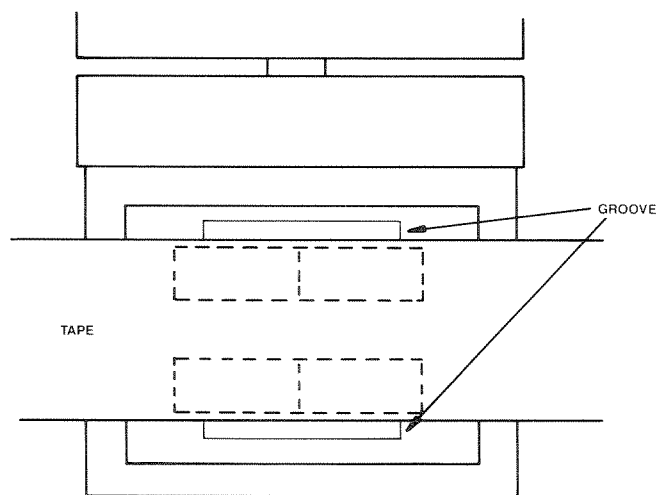
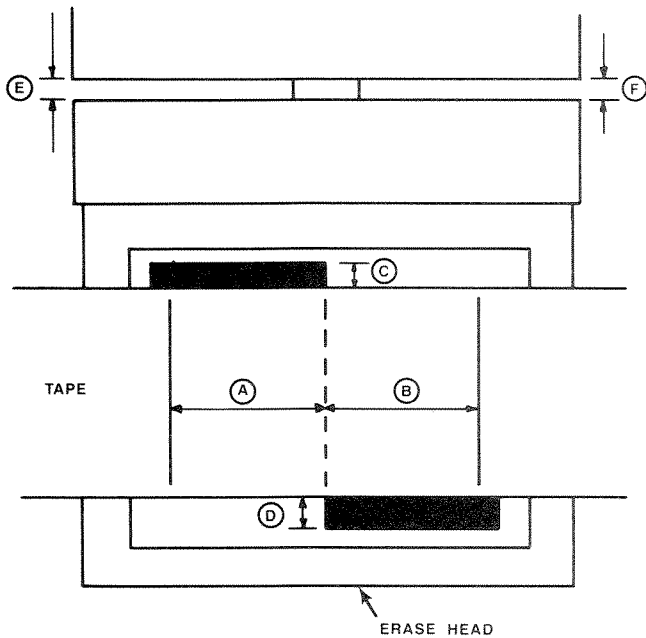

Figure 6-10. Repro or Sync Head Heights
Figure 6-11. Erase Head Adjustments
STEP 27 Press **PLAY** and observe the head height. The tape must ride between the two grooves machined in the repro or sync head (see Figure 6-10, Repro or Sync Head Height) or equalize the distance ③ and ④ on the erase head (see Figure 6-11, Erase Head Adjustment). If it is not, repeat this procedure until both adjustment specifications have been satisfied.
Observe the tape movement across the heads. The tape should be centered between the two grooves which are machined into the surface of the head when checking the repro or sync head (see Figure 6-10). When adjusting the erase head make sure that the distance ③ is equal to the distance ④ in Figure 6-11. If adjustments are necessary refer to this procedure.